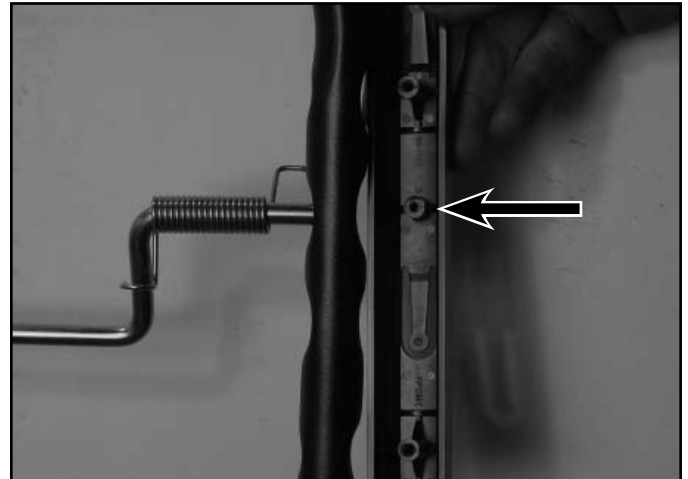

Fig 234
1. There are 3 bosses on the inside of the guide. The top and bottom ones receive the mounting screws. The boss in the photo must line up with the end of the control rod. This boss keeps the rod from moving sideways and falling out of the handle (Fig. 234).